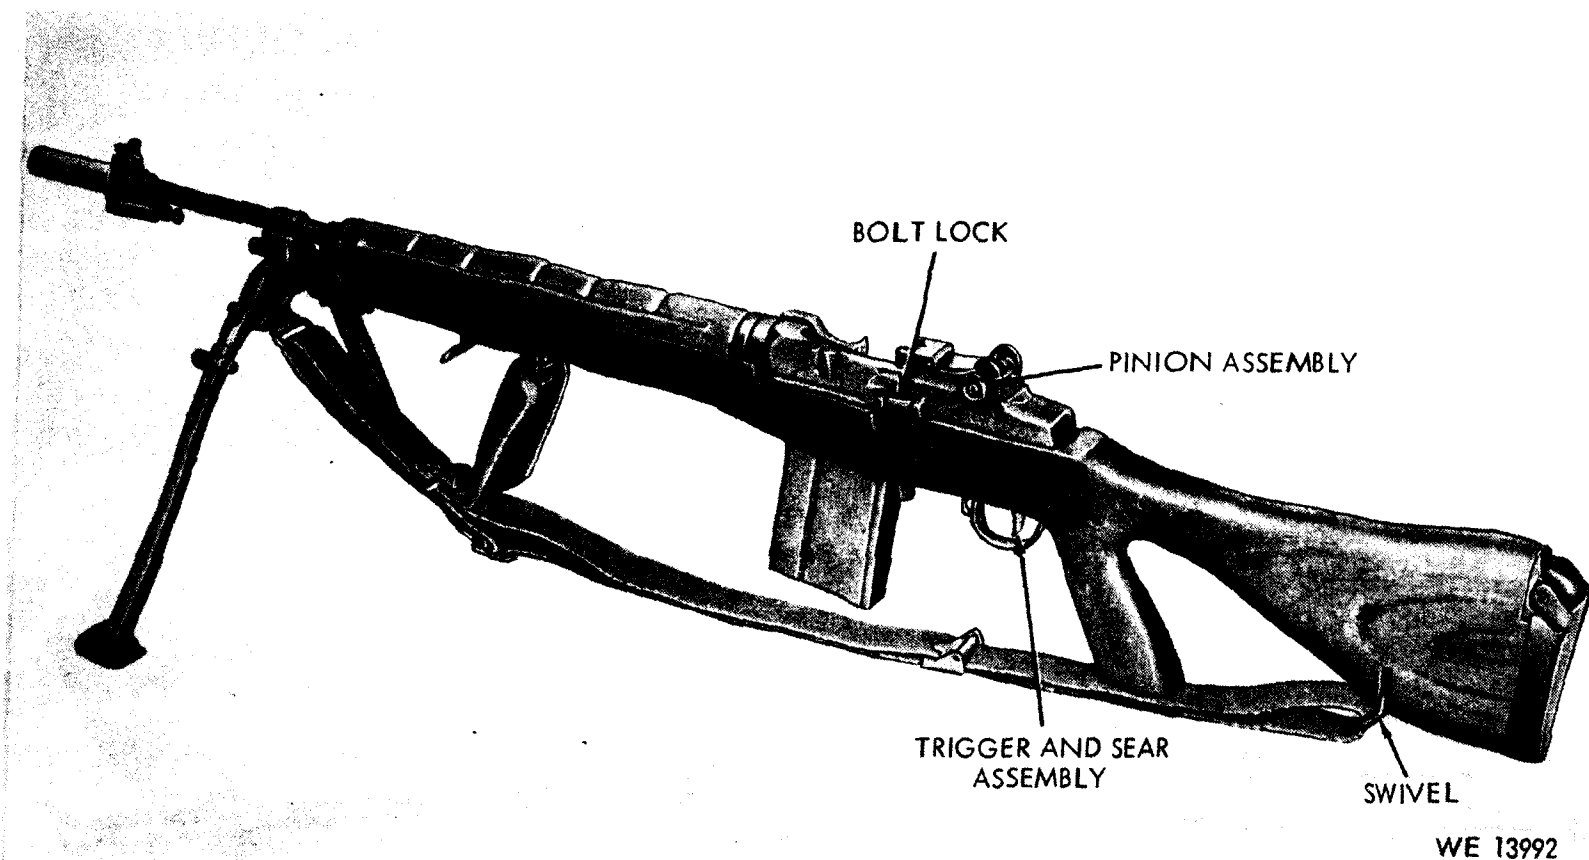

Figure 1-8. 7.62-MM Rifle M14A1 and controls - left rear view.
b. Rifle M14A1 (figs. 1-8 and 1-9). The Rifle M14A1 is issued for the automatic rifle roll. Additional features are the folding shoulder rest, to aid the vertical control of the weapon, a recoil pad on the butt end of the stock,